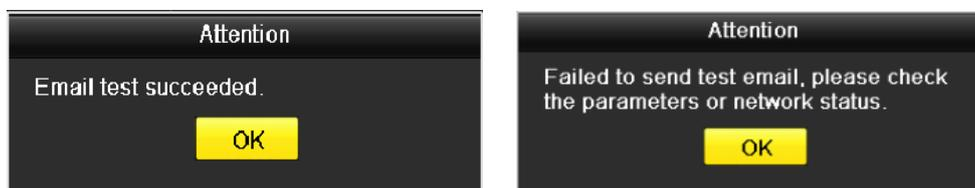

Figure 9.21 Email Testing Attention
7. You can click the **Test** button to test whether your Email settings work. The corresponding Attention message box will pop up. Refer to Figure 9.21.